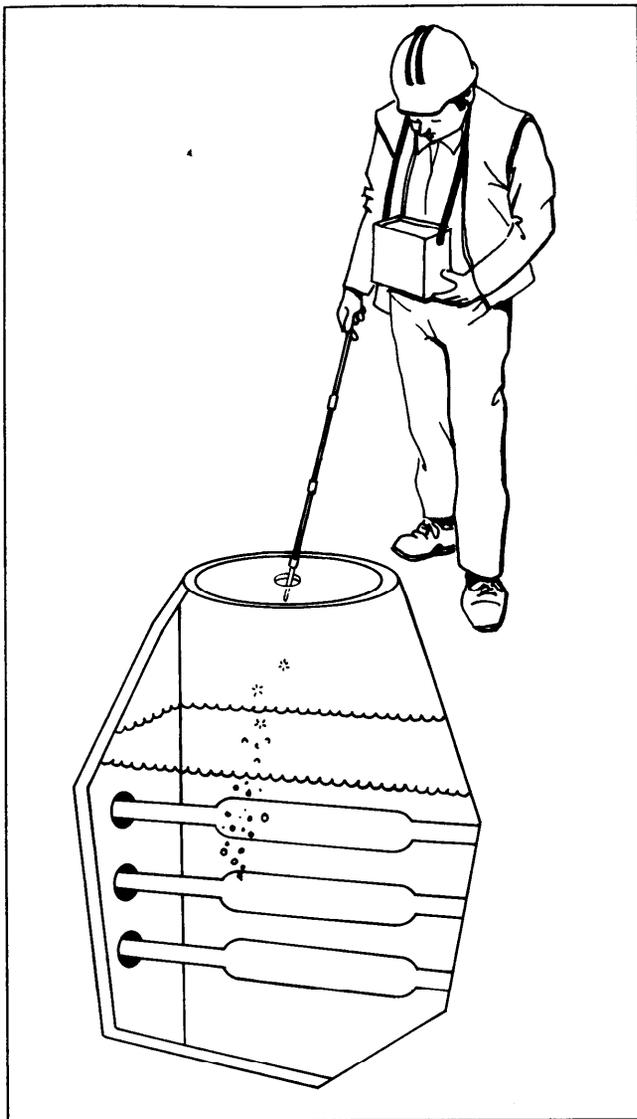

Fig. 7 - Sampling For Helium at Manhole
5.32 Helium will escape from faults in manhole or duct structures once the system is properly charged. Helium will rise to the top of the manhole structure and gather under the lid where it may be detected with the Model 1820A through the lid without removing it (see Section 8, (Fig. 7)).